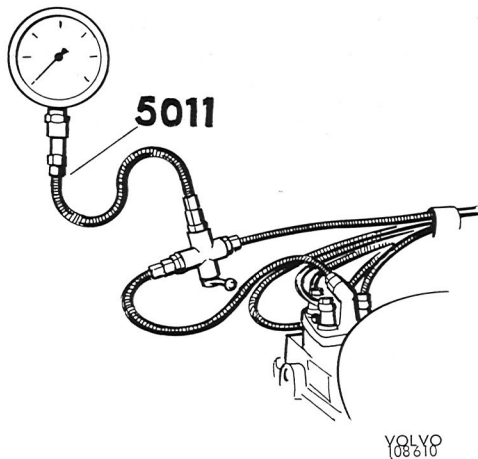

Fig. 2-193. Control pressure test
1. Connect the pressure gauge 999 5011 between the fuel distributor and the control pressure regulator, see Fig. 2-193.
2. Turn the valve lever so it points towards the pressure gauge, see Fig. 2-193.